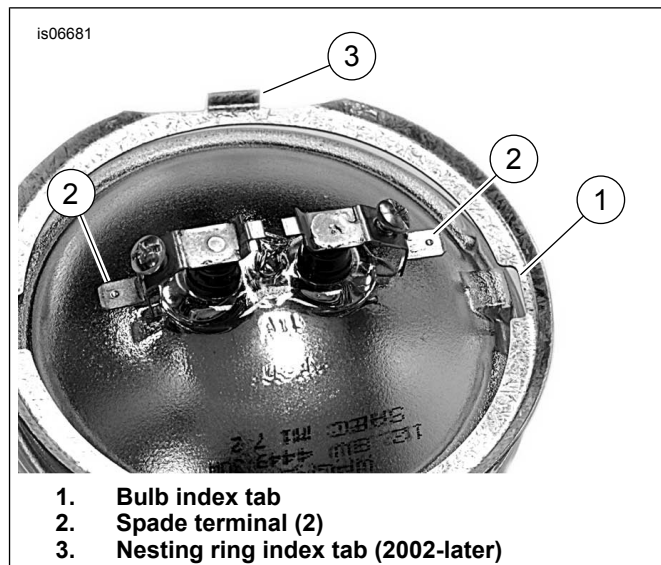

Figure 3. Auxiliary Lamp Bulb Terminals
7. See Figure 3. Place the inner nesting ring on the bulb. Connect the black wire to the bulb spade terminal next to the bulb indexing tab (1) on the bulb. Install the gray wire on the remaining spade terminal.